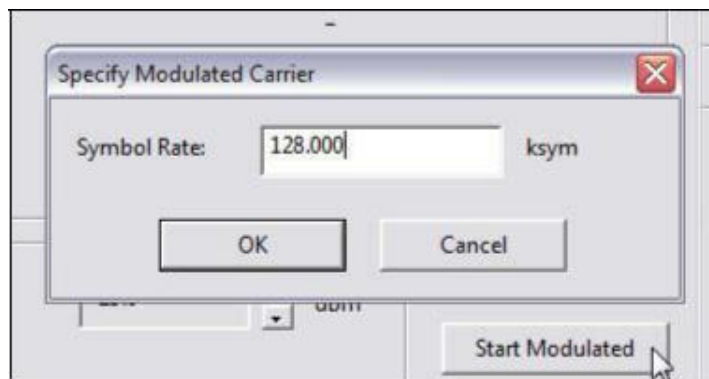

Figure 51. iSite: Transmitting a Modulated Carrier
- b. In the **Specify Modulated Carrier** dialog box (Figure 51), accept the default **Symbol Rate** of 128 kilosymbols per second.